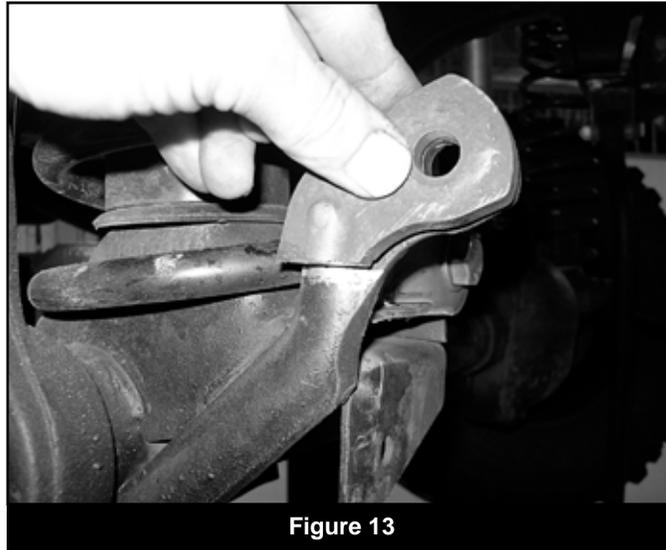

Figure 13
39. With the driver's side link mount removed, use the cut portion as a template by aligning the hole and the profile of the cut piece with the passenger's side mount. Mark the cut line on the passenger's mount (Fig 13). Note: A $1/2$ " bolt can be inserted in the mounting holes of the ends to aid in alignment.